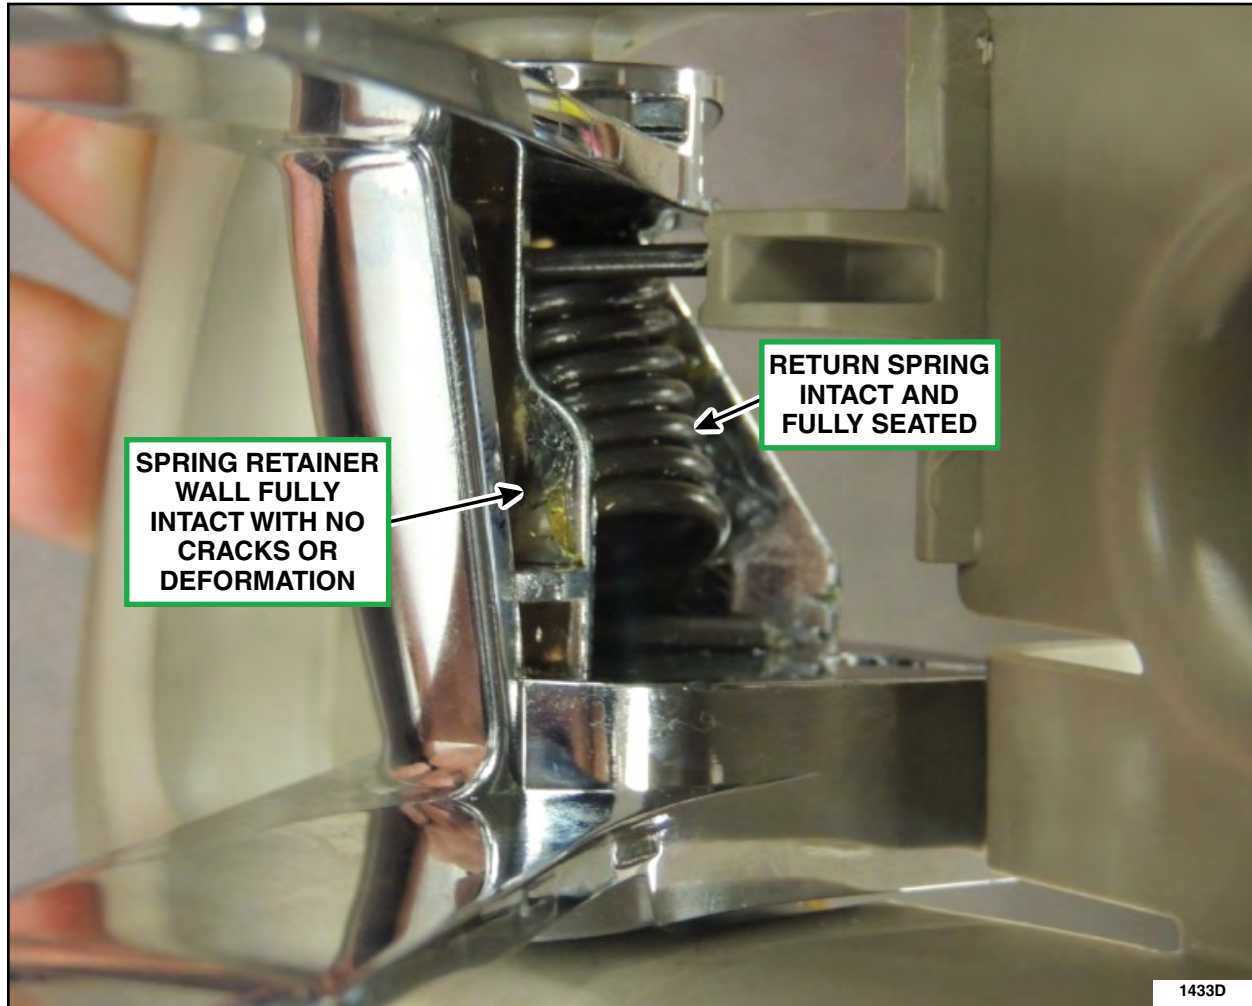

FIGURE 4
4. Return spring is intact and fully seated. The spring retainer wall is not deformed and is fully intact with no cracks. See Figure 4.